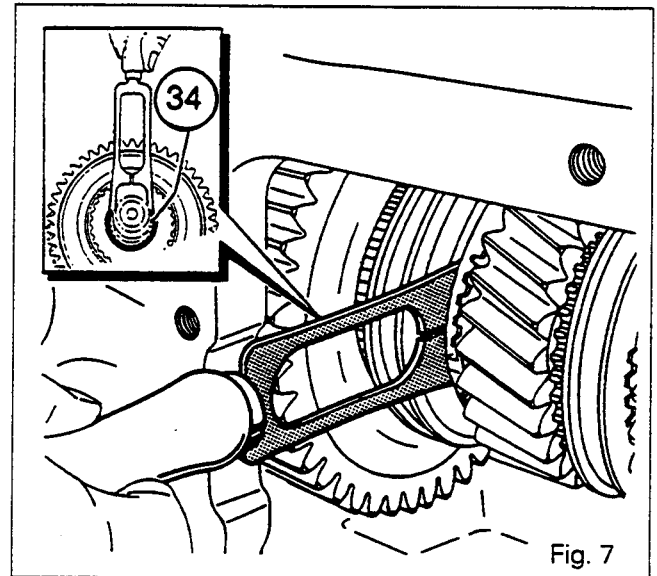

Fig. 7
12. Remove the locking ring (46).
13. Remove the bearing cup (48).
14. Remove the circlip (45).
16. Remove the bearing cone (40).
17. Remove the cone (39).
18. Remove the adjusting shims (38).
19. Pull the shaft (44) towards the rear.
20. Remove the snap ring (34) using tool MF 460 and discard it (see Fig. 7).
22. Through the opening in the selector cover, take out the synchromesh (31), the synchromesh rings (33) and (74), the gear (29) with cones (75) and (76), the ring (25), the two thrust washers (27) and (32) and the Tortoise gear (36).
**Note: Keep the synchromesh rings (25) and (74) paired with the cones (75) and (76), and ring (33) with cone (73).**
23. Remove the cap (37) and circlip (49).
24. Remove circlip (19), washer (22) and the needle-roller bearing (24).